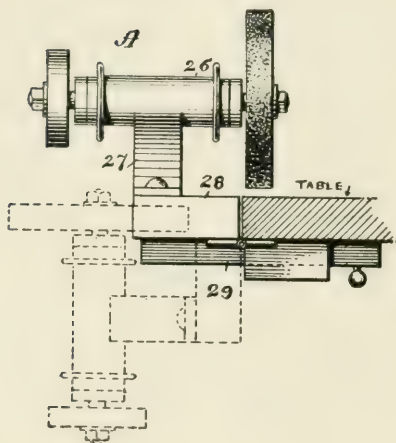

Fig. 50—Hinged mounting of the tool grinder
*Tool Grinder.*—The tool grinder consists of an old bicycle hub, 26 (Fig. 50), to which is soldered a suitable leg or support, 27, made of say  $1\frac{1}{2} \times \frac{1}{8}$ -inch iron, which is fastened to a hinged block, 28, with wood screws. To the central rod of the bearing is fastened a small pulley on one side, and an emery wheel on the other. The block is hinged to the main table, and held in upright position with a sliding bolt 29, which is pushed under the block, when the emery wheel is in use.
When the wheel is not in use the bolt 29 is withdrawn, allowing grinder to swing downward, as indicated by dotted lines in Fig. 50. In this position it will not interfere with the free movement of the work on top of the table. The emery wheel is driven by a small belt from the flywheel 15. The wheel should run